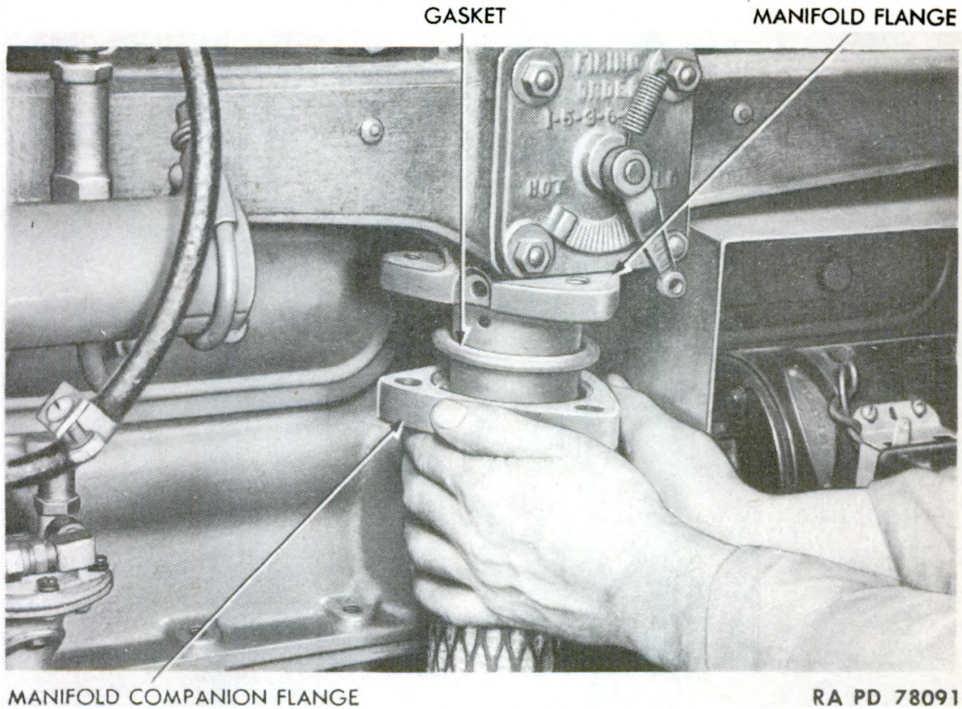

Figure 28 — Manifold Flange Gasket Installation
(1) Bring manifold, with new gaskets affixed, into position against the engine wall with the engine studs in place through the manifold slots. Bring the lower flange or collar of the manifold down over the exhaust pipe. Make sure the pipe reaches up into the top flange. Tighten the bolts that attach the flanges together with the ring gasket (fig. 28) set between. Tighten lock bolt through the upper flange. Place lock washers on the manifold attaching studs and secure manifold in position with 10 hexagonal nuts.
(2) Bring assembly of carburetor and throttle box down in place